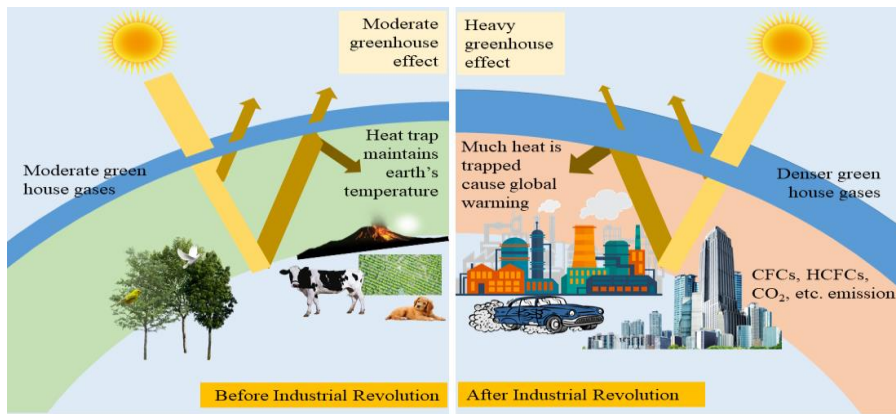

Fig. 4.9 Greenhouse gases and global warming before and after the industrial revolution
4.3.2 Global Warming Potential (GWP) – Global warming or climate change is a second major environmental concern. Figure 4.9 shows greenhouse gases and global warming before and after the industrial revolution. When solar radiation reaches the earth's atmosphere, some of it is reflected to space and the rest is absorbed and re-radiated by greenhouse gases. The greenhouse effect is a process of trapping the solar radiation within the atmosphere. With the help of the natural greenhouse effect (carbon emission through volcanoes and hotspots), the average temperature at the earth's surface is maintained at an average temperature of 15°C, making life possible. Without greenhouse gases, the average temperature of the earth's surface would be about -18°C. Human activities emit about 35 billion tons of greenhouse gases per year (100–300 times more than volcanoes). Global warming arises because of the greenhouse effect. Some of these greenhouse gases include CFCs, HCFCs, CO₂, methane (CH₄), and nitrous oxide (N₂O).